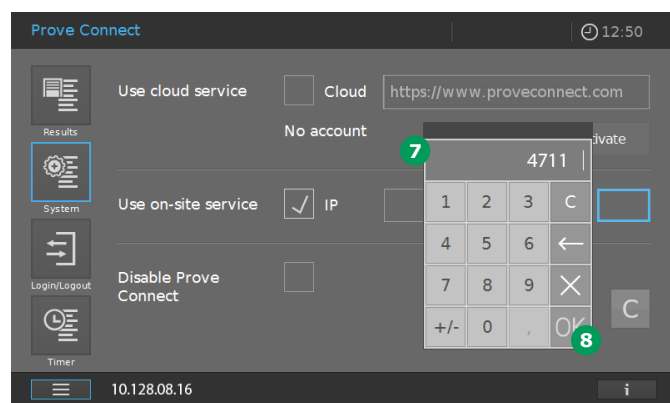

Figure 21 - Screen of Spectroquant® Prove / Prove plus (Figure 17) with entered Port of the PC on which Prove Connect runs
The entry field appears 7 (Figure 21).
9. Confirm the entered Port with "OK" 8 (Figure 21).